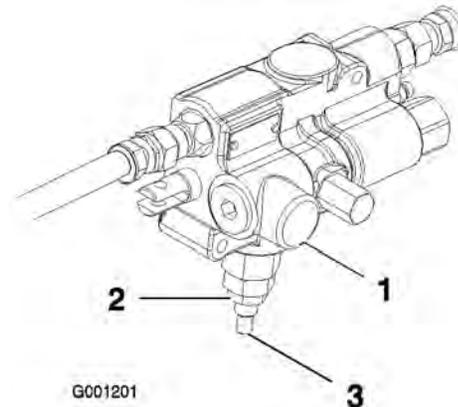

Figure 13
4. Loosen the jam nut at the bottom of the lift valve (Figure 13). The lift valve is located on the right side of the machine.